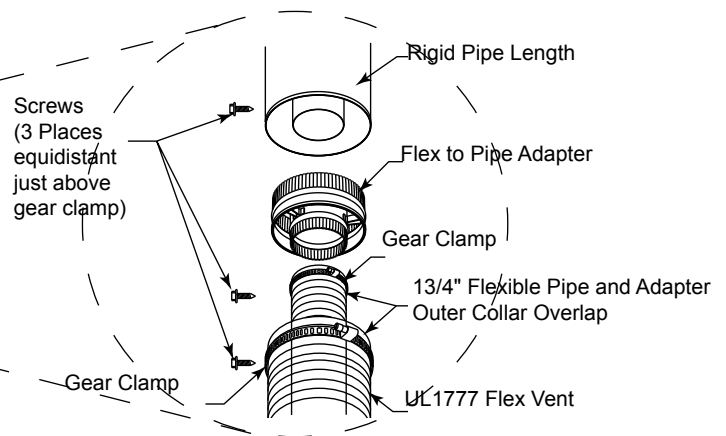

Figure 29 - Typical Pipe Connection
2. Review *Figure 29* and corresponding instructions for proper overlap, clamp and screw placement.